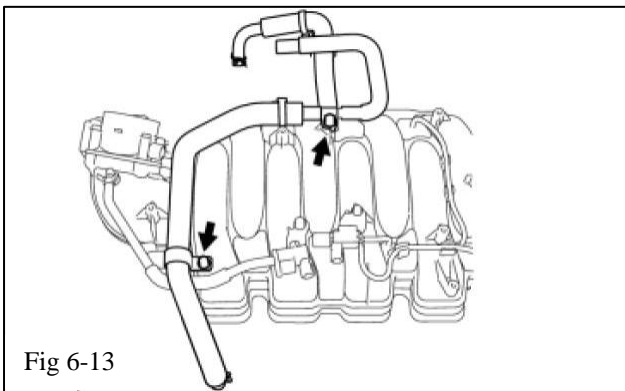

Fig 6-13
- (n) Remove the 2 bolts and ventilation hose from the intake manifold (Fig 6-13). Set the hose aside for later reuse.